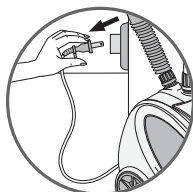

fig.11
- Ensure that the steamer is unplugged - fig.11. Remove the water tank from the base of the appliance by pulling the handle upwards - fig.12. Unscrew the tank cap and fill the tank - fig.13. The tank holds 1,8 liters (60 ounces).